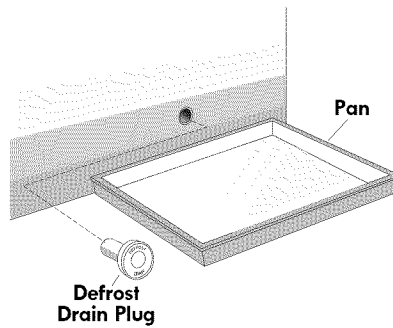
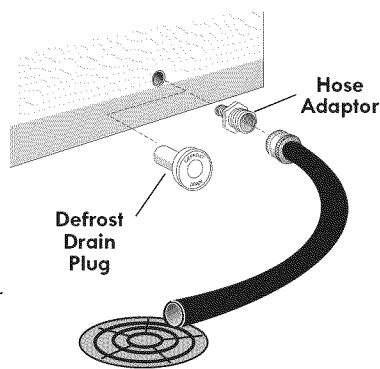

Figure 2
Figure 3
- Place a shallow pan or the Divider/Drain Pan (if equipped) beneath the drain outlet. Pull out the outside drain plug (see figure 2). A ½ inch garden hose adapter can be used to drain the freezer directly into a floor drain (see figure 3). If your model is not equipped with an adapter, one can be purchased at most hardware stores.